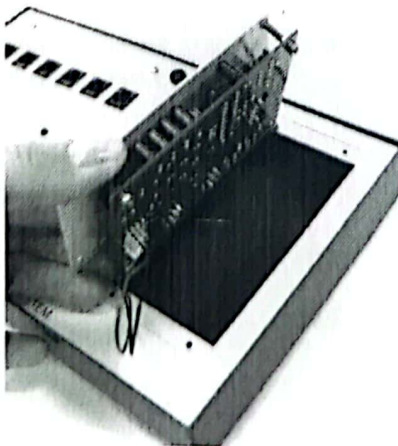

Figure 7 Carefully Lift the Board
3. Carefully lift the board up (see Figure 7).